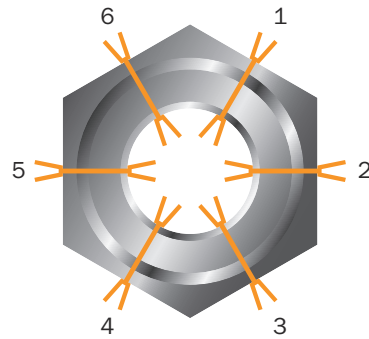

Figure 64: Part with n -fold rotational symmetry (here: 6-fold), pick poses to be configured
- N-fold rotational symmetries are not taken into account. This means, for example, that for a 6-fold rotational symmetry, you need to configure six different pick poses even though the appearance and shape of the part remain strictly identical each time it is rotated through 60° (see figure 64 and figure 64). (For detailed information on rotational symmetries, see "Symmetry and pseudo-symmetry", page 125)